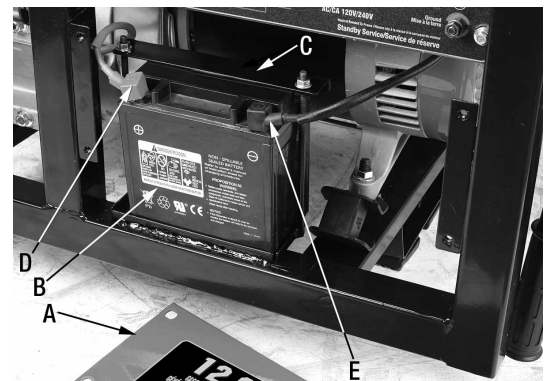

Figure 4
To install the battery, first the battery panel (A) Fig.4 must be removed by undoing the 4 flange head hex. bolts which hold it in place. Place the battery (B) into the battery tray and secure it in place using the upper retaining plate (C), fixing shafts and hex. nuts as shown. Once the battery is secure, connect the red positive (+) battery cable (D) to the positive post. Then connect the black negative (-) battery cable (E) to the negative post of the battery.
Note: Actual battery may appear different than the one shown in Fig.4, but the installation instructions remain the same, always connect the red positive (+) battery cable to the positive post, connect the black negative (-) battery cable to the negative post of the battery.